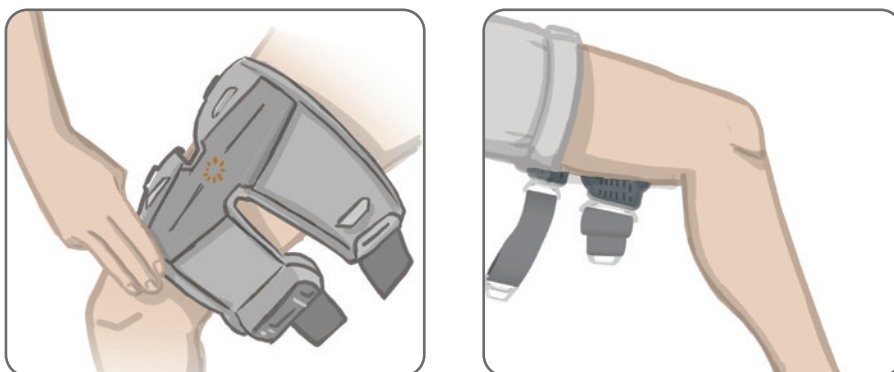

Figure 6-5: Correct Position of the Thigh Cuff Locator
3. Place the Thigh Cuff locator (a tactile finger mark) on the midline of the thigh, approximately three finger widths from the knee. See Figure 6-5. Make sure to place Thigh Cuff in the fitting position determined by your clinician.